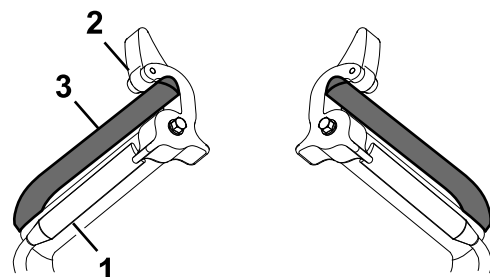

Figure 19
1. With rear of machine still on jack stands and engine running at full throttle, disengage the park brake and move the speed control lever to the midway position. Move the respective drive lever upward/rearward until it reaches the neutral position and engage neutral lock latches (Figure 19). If the tire rotates in either direction, the length of the drive lever link will need to be adjusted.